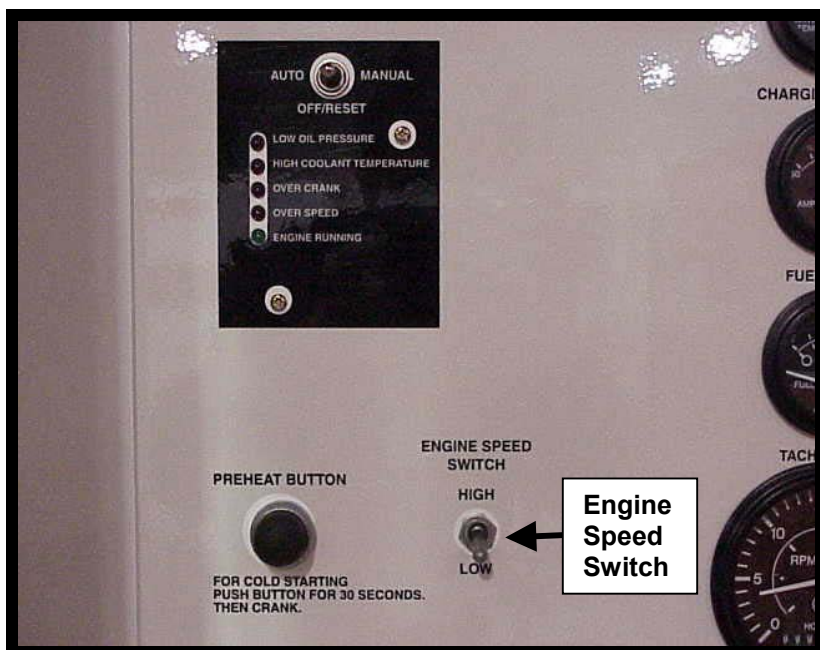

Figure 2
- 1) Set Engine Speed Switch to the Low Speed position. **See Figure 2** (Located on Main Control Panel).
- 3) Set engine speed switch to the High Speed position. **See Figure 2** (Located on the Main Control Panel).